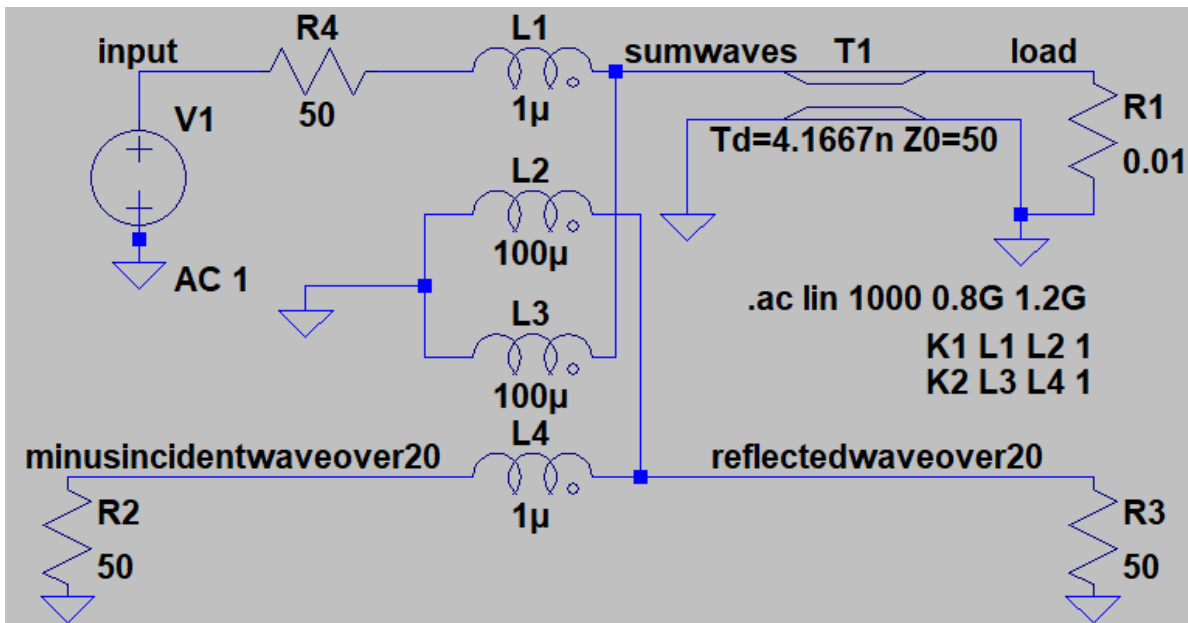

Figure 3: Simulated one-port vector network analyzer with directional coupler.
- a. Figure 3 (below) is a starting point for simulating a VNA. The schematic uses ideal mutual inductance (the K statements) to represent the behavior of a directional coupler, a circuit element that separates forward and reverse waves. (We'll talk about these more in a few weeks.) The node labels indicate the wave voltages that will be observed on that node, so the reflectedwaveover20 node will display the reflected wave voltage scaled by a factor of 20. Build and simulate Figure 3.
- b. Modify figure 3 to express each of the situations in theory question 1. Make sure simulations and analysis match.
- ii. Alternatively, you can convert an LtSpice AC simulation output file to a Touchstone s1p file, which can be read by Matlab. Be sure to use the in the real, imaginary output format for your AC simulation file, not the magnitude, phase format. Then (1) save the AC simulation output with a filename that ends in “.s1p”, (2) replace the first line with “# Hz S RI R 50”, and (3) replace all commas with spaces. Note that S11 and  $\Gamma$  are synonyms (for this lab).